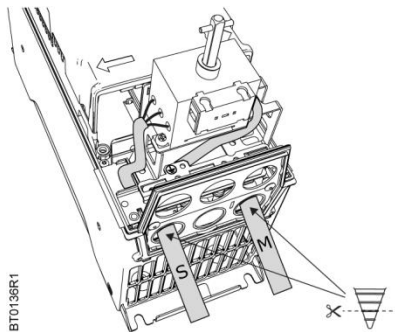

Figure 5.
- Install supply cable **S** and connect it to the main switch (see Figure 5).